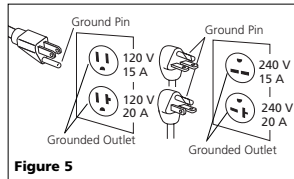

Figure 5
1. This product must be grounded. In the event of an electric short-circuit, grounding reduces the risk of electrical shock by providing an escape wire for the electric current. Unit is equipped with a cord that has a grounding prong. It will fit one of the common outlet types shown in Figure 5. If plug will not fit in the desired outlet, have the plug or the outlet replaced by a qualified electrician.
1. If the plug on the electrical cord of the unit is unfamiliar to you or will not fit your particular receptacle, Figure 5 will help you understand why by illustrating the different plugs and the voltages they are to be used with.
Dual voltage motors may be connected for either 120 V or 240 V. By comparing the plug on the cord with the receptacles shown in Figure 5, you can determine for which voltage your compressor is factory wired. Also check motor decal to change from low voltage to high voltage.